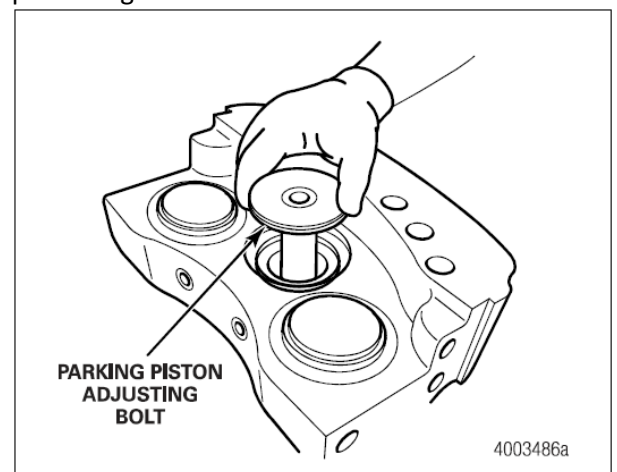

Figure 5.9
22. Screw the adjusting bolt into the adjusting collar finger tight, until fully seated into the parking piston. Figure 5.9.